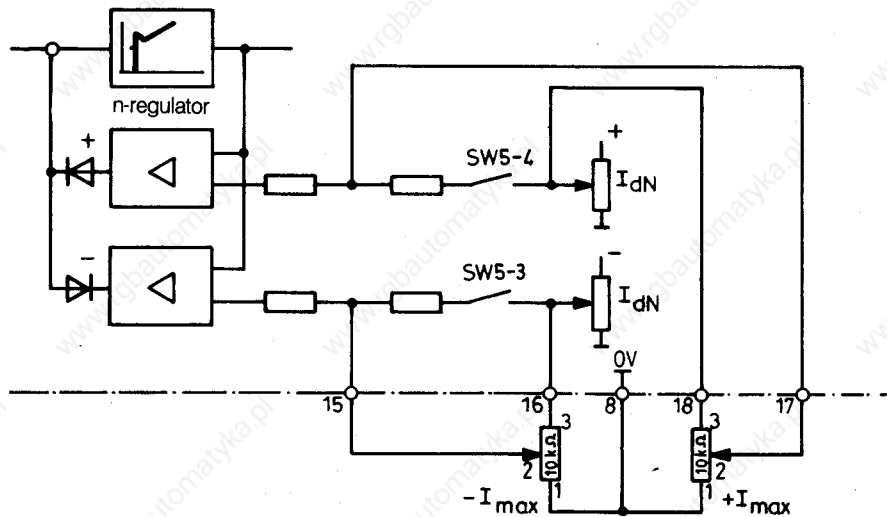

Fig. 5.5.2.1 External current limitation
- Connect circuit as in fig. 5.5.2.1